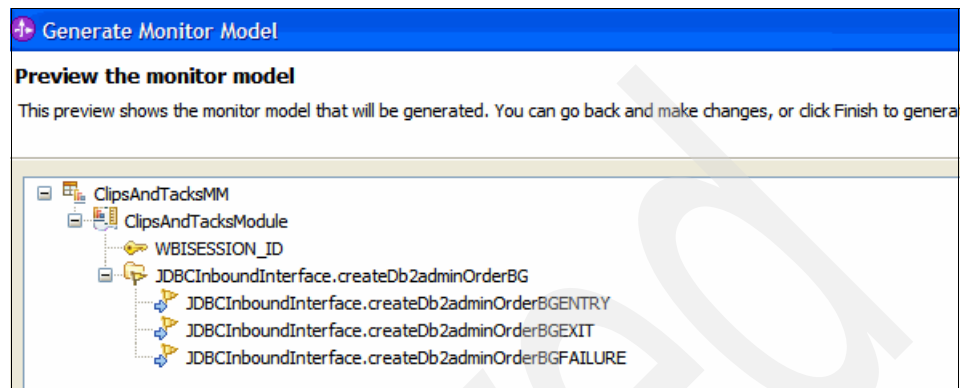

Figure 6-47 Previewing the monitor model
7. In the Generate Monitor Model – Preview the monitor model window (Figure 6-47), click **Expand All** to see the elements of the Monitor Model. Click **Finish**.